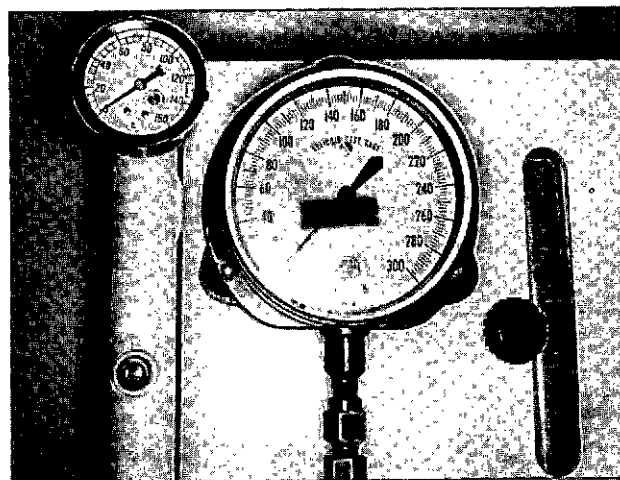

Fig. 4-41, (F60209). The air pressure and test oil pressure gauges
5. Shop air pressure, regulated by an air regulator, is used to apply a balanced force on the hydraulic system, Fig. 4-41. The air gauge at the top of the hydraulic reservoir is used as a reference indicating that pressure has not changed, after being set when using a load test cell during the test stand calibration.